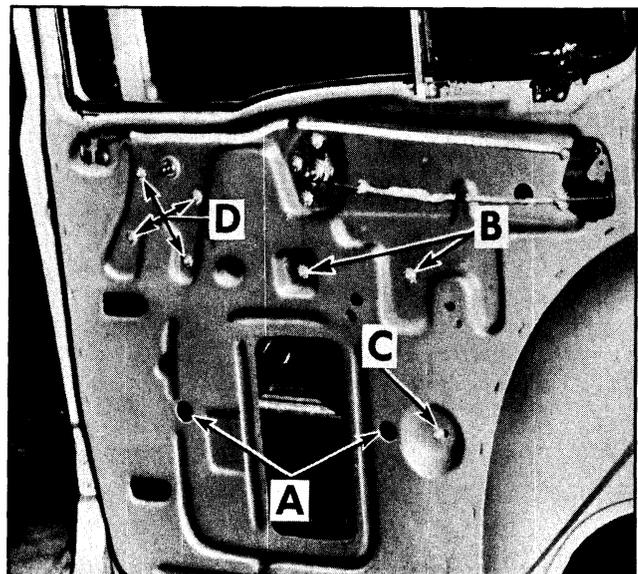

Fig. 17-24 Rear Door Glass Adjustments
1. The lower end of the division channel can be adjusted "in" or "out" at the adjusting stud "C" at the lower end of the channel. (See Fig. 17-24)
#### All (Except 4 Door Holiday) FIG. 17-24